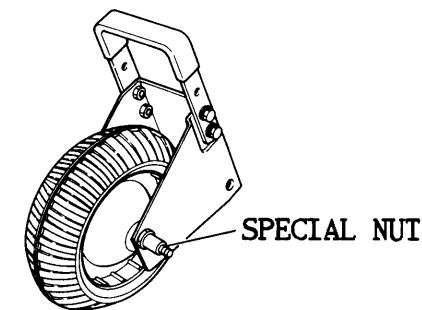

FIG. 2
2. Tighten the re-installed shaft with special nut. (Fig.2)